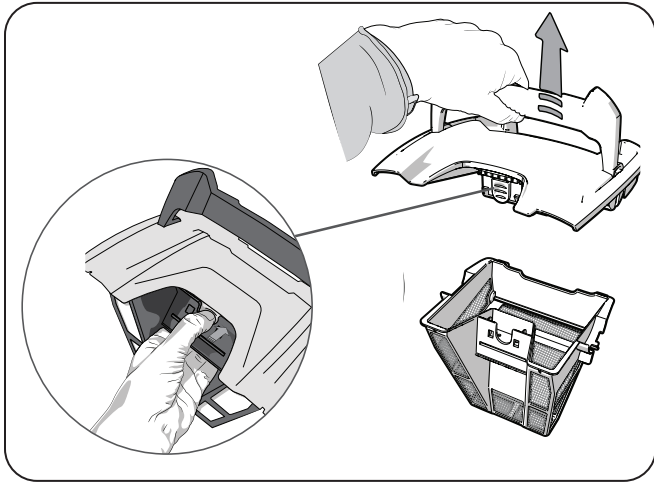

Figure 11. Remove Filter Canister Lid
- Press the interior latch and remove the filter canister lid (Figure 11).